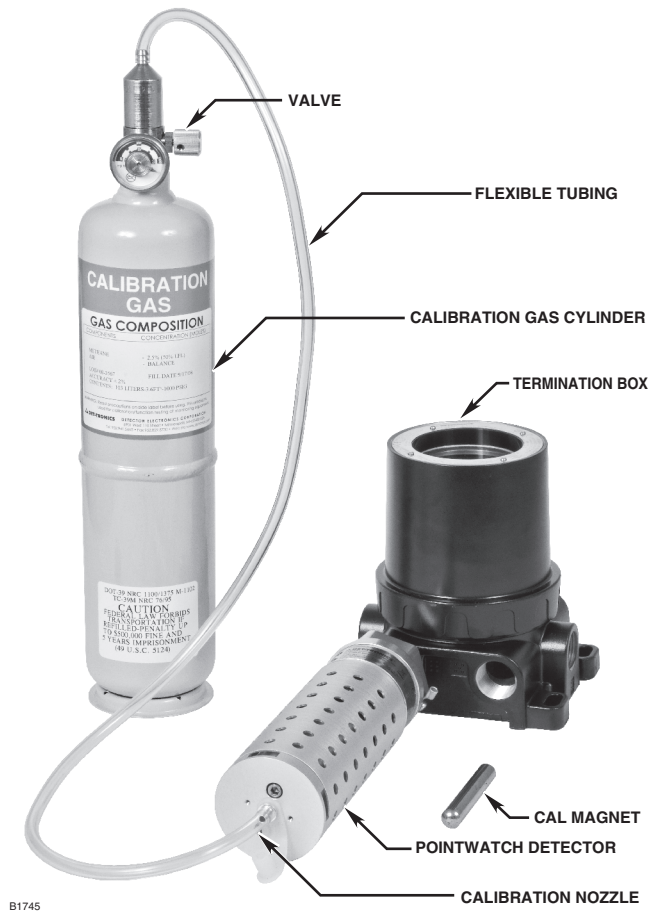
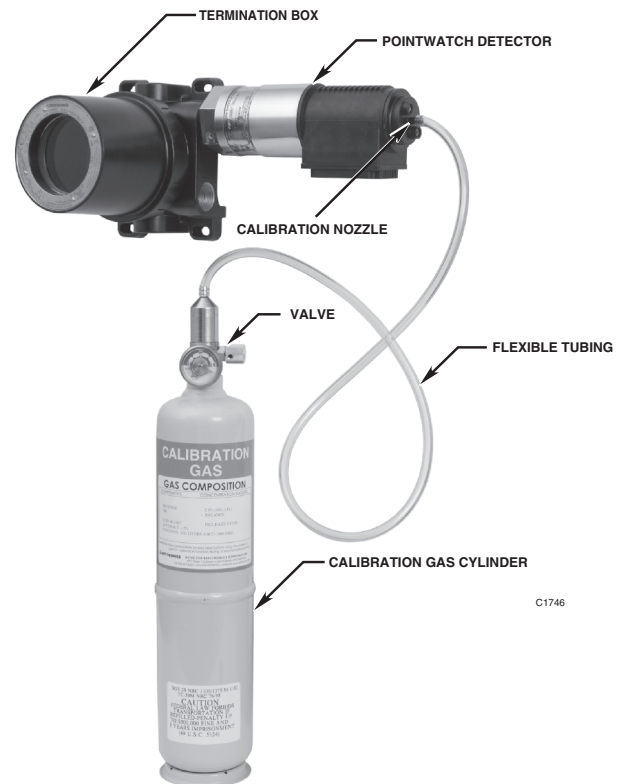

Figure 24—Aluminum PIR9400 Detector Calibration Configuration
Figure 25—Stainless Steel PIR9400 Detector Calibration Configuration
- Connect the calibration gas canister, valve and tubing to the direct input nozzle as shown in either Figure 24 (aluminum model) or Figure 25 (stainless steel model) depending on the method used.
- Apply 50% LFL calibration gas to the detector. This is accomplished by opening the valve on the calibration gas canister (see Figure 24 or Figure 25). A 2.5 liter per minute flow rate is recommended.
4. Connect the calibration gas canister, valve and tubing to the direct input nozzle as shown in either Figure 24 (aluminum model) or Figure 25 (stainless steel model) depending on the method used.
5. Apply 50% LFL calibration gas to the detector. This is accomplished by opening the valve on the calibration gas canister (see Figure 24 or Figure 25). A 2.5 liter per minute flow rate is recommended.